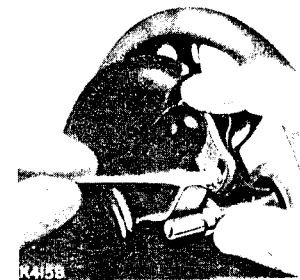

Fig. 10. Bobbin Winder Adjustment
If the pressure of the pulley (6) against the ledge of the hand wheel is insufficient for winding the bobbin, press down the winder until the latch (4) drops down and holds it, then loosen the screw (5). With the forefinger push back the upper end of the slotted plate (see Fig. 10) as far as it will go and, at the same time, with the thumb, press the winder against the ledge of the wheel. Then tighten screw (5) securely. Afterwards raise the latch to release the winder from contact with the hand wheel.